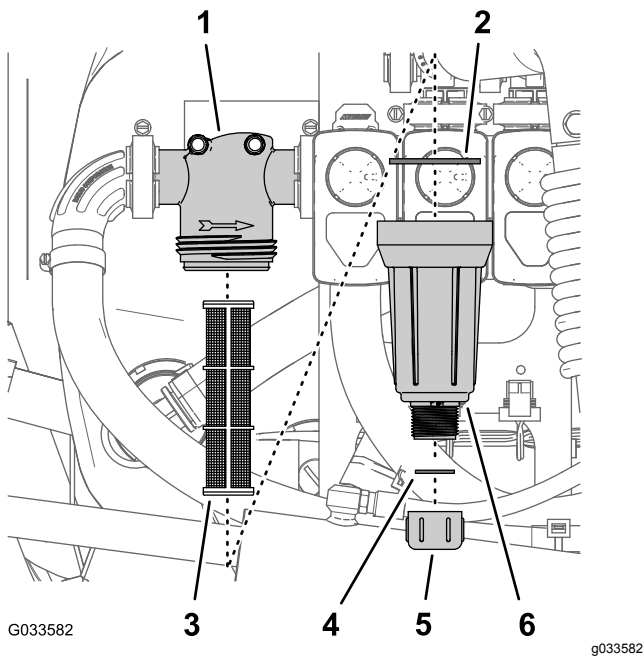

Figure 103
2. Align a drain pan under the pressure filter (Figure 103).
3. Rotate the drain cap counterclockwise and remove it from the bowl of the pressure filter (Figure 103).
4. Rotate the bowl counterclockwise and remove the filter head (Figure 103).
5. Remove the old pressure filter element (Figure 103).
6. Check the gasket for the drain plug (located inside the bowl) and the gasket for bowl (located inside the filter head) for damage and wear (Figure 103).
7. Install the new pressure filter element into the filter head (Figure 103).
8. Install the bowl onto the filter head, and tighten by hand (Figure 103).
9. Assemble the drain cap onto the fitting at the bottom of the bowl, and tighten the cap by hand (Figure 103).